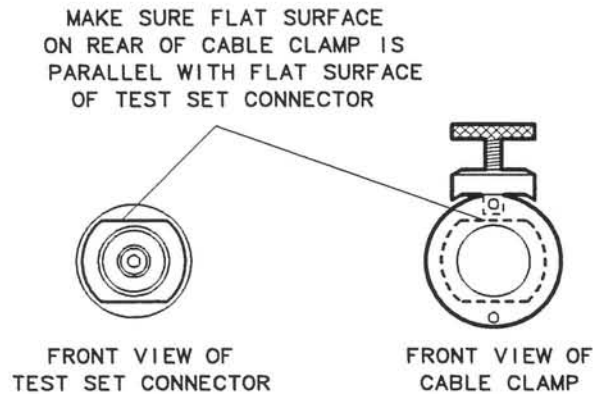

Figure 3-5. Visually Aligning Clamp and Nut Flats
3. See Figure 3-5. Turn the clamp so that the thumb-screw points upwards.